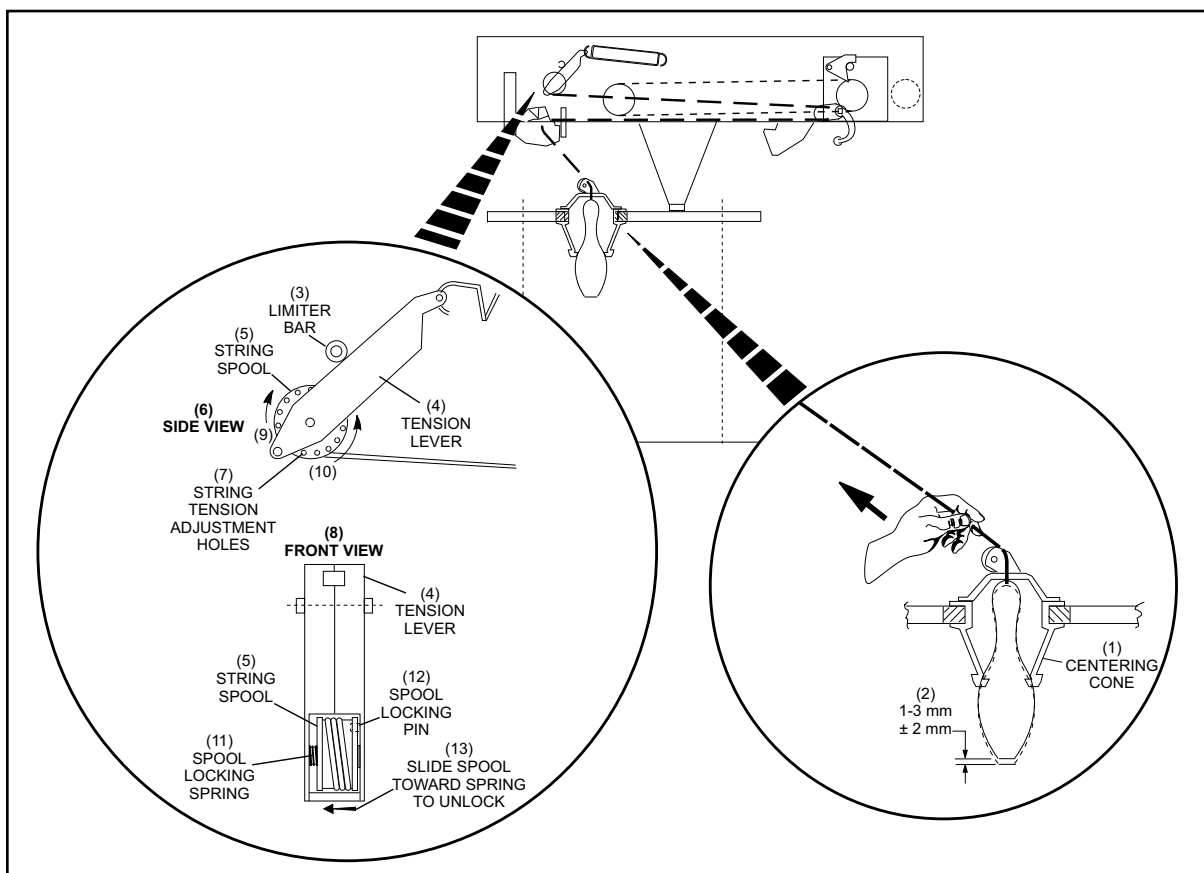

Figure 4-9. String Tension Adjustments
- a. Check the movement of a raised pin in the pin centering cone by pulling on its string. The travel distance of the pin should be 1-3 mm + 2 mm. Refer to *Figure 4-9*.
- b. If the tension adjustment is required for any of the pins. Refer to *Figure 4-9*;
i **NOTE:** Rotating the spool towards the back of the machine will reduce the tension and gap. Rotating the spool toward the front of the machine will increase the tension and gap. Refer to Figure 4-9.